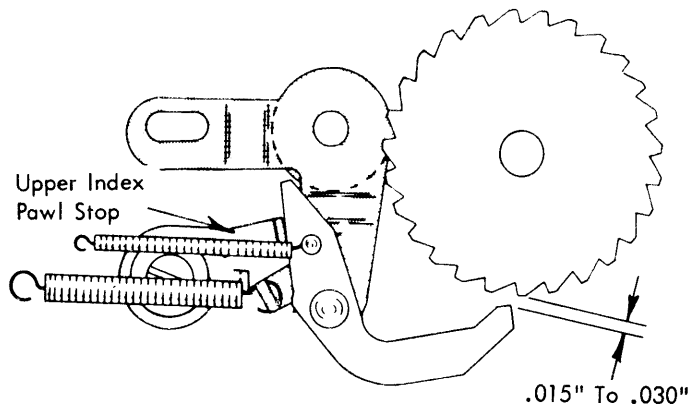

FIGURE 158. Upper Index Pawl Stop Adjustment
3. Upper Index Pawl Stop - With the index cam latched adjust the upper index pawl stop so that the index pawl clears the ratchet by .015" to .030" (Fig. 158).